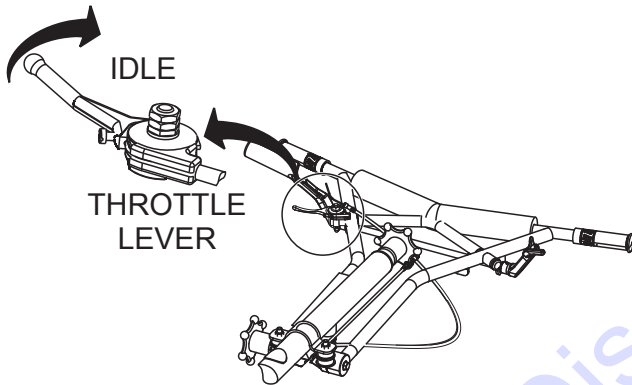

Figure 44. Throttle Lever (Idle)
2. Return the throttle lever to the **IDLE** position (Figure 44) and let the engine run for 3 minutes at low speed.